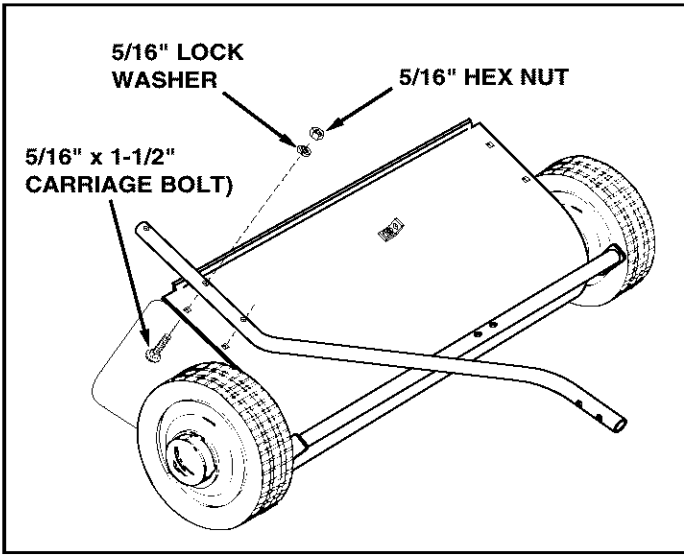

FIGURE 2
- Assemble the R.H. hitch tube to the sweeper housing using two 5/16" x 1-1/2" carriage bolts, 5/16" lock washers and 5/16" hex nuts. **Do not tighten yet.** Repeat for the L.H. hitch tube. See figure 2.